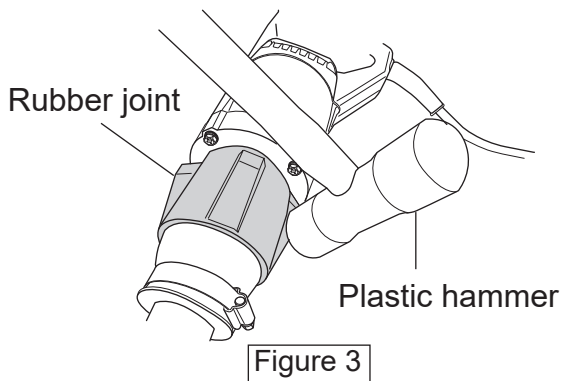

Figure 3
1. Remove the rubber joint by hitting with the plastic hammer. (The rubber joint is left-hand screw.) (Figure 3)
4. Tighten the rubber joint properly by hitting with the plastic hammer. (The rubber joint is left-hand screw.) (Figure 3)